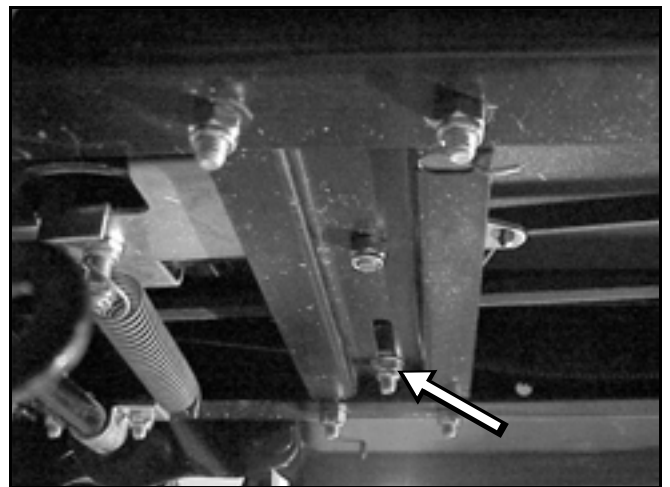

Figure 70
- A. Loosen the fastener securing the forward cable guide. It is located just above and behind the mower deck pulley (Figure 70).